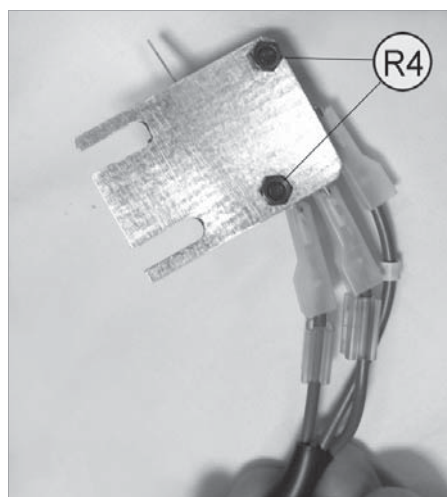

Fig. 68
- 4) Loosen the 2 screws (R3) and 2 nuts (R4) so that the microswitch can be removed (Fig.68).